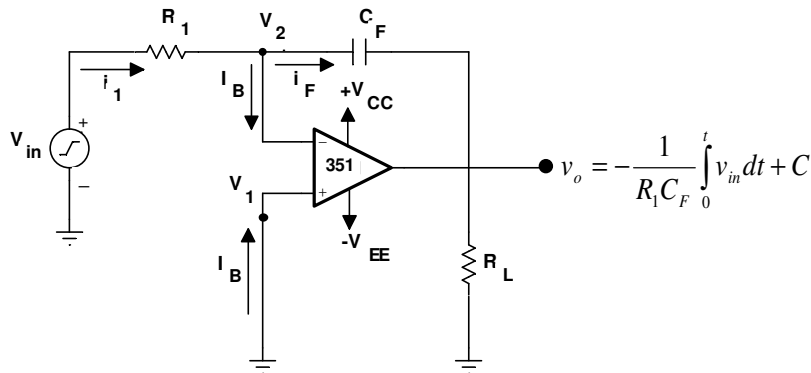

Fig. 83.1
**Ans:** (i) **Op-amp as an Integrator:** A circuit in which the output voltage waveform is the integral of the input voltage waveform is the integrator or the integration amplifier. Such a circuit is obtained by using a basic inverting amplifier configuration if the feedback resistor  $R_F$  is replaced by a capacitor  $C_F$  as shown in fig 83.1